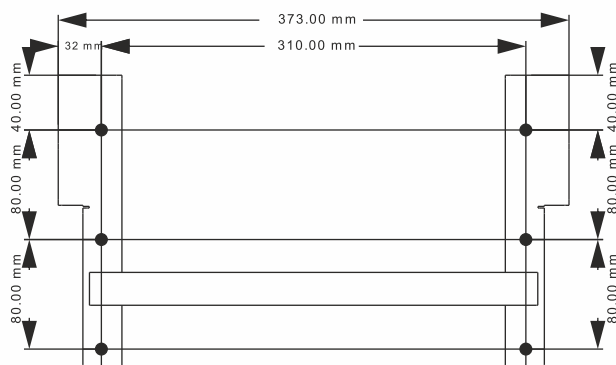

Fig. 5.3 Mounting Brackets for KLPHYB/KLPGT
1. Connect the mounting plate strip to the mounting brackets and then mark the Positions of the Drill Holes of the wall mount bracket. The mounting position should be marked as shown in Figure 5.3 & 5.6